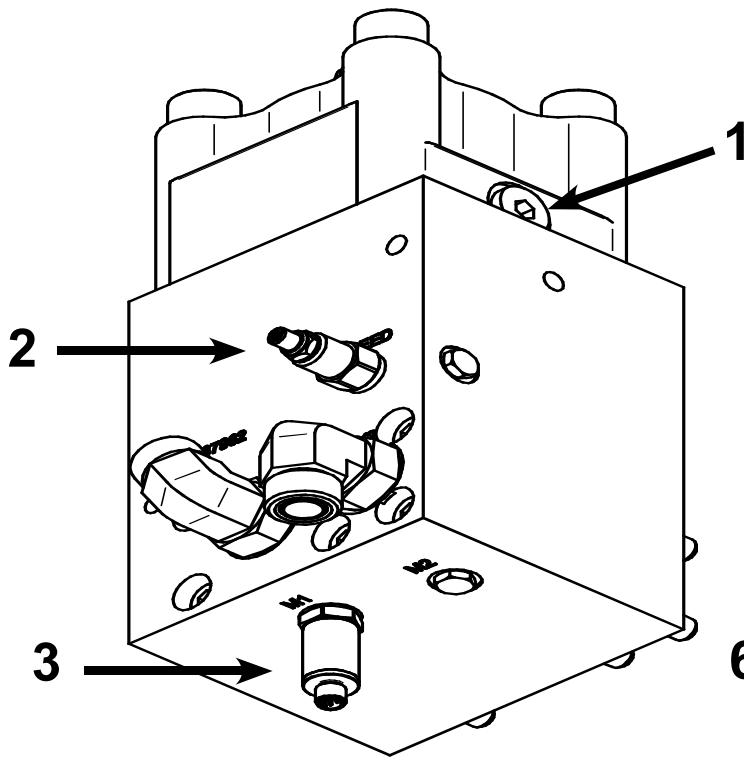

FIGURE 9-7 Cylinder Manifold
The hydraulic system is equipped with male quick-disconnect fittings at the most frequently checked pressure test ports. Identification of the hydraulic system components is shown in Figures 9-7, 9-8 and 9-9.
The hydraulic valves and main components are mounted on top of the hydraulic oil reservoir and on a manifold on each cylinder. See Figures 9-7, 9-8 and 9-9. These can be easily removed for service or replacement.
3. Lower the high side of the ram by gradually lowering the respective jack and opening the bleed valve on the cylinder manifold. See Figure 9-7 for valve location. When the ram is level, close the bleed valve. The ram tilt limit switches will no longer deactivate the electrical circuits. Remove the padlock and turn the Main Switch “ON”. Log on to the HMI Control. Press the Main Drive START button on the HMI control. DO NOT remove the jacks. The cause for the ram out-of-level condition may allow the ram to continue to drop.